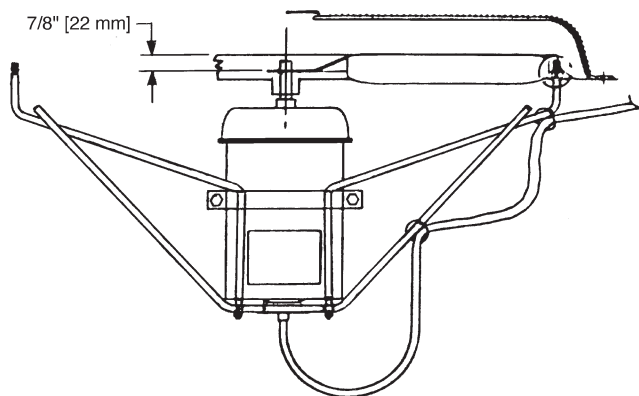

**Fig. 51 — Condenser-Fan Adjustment
3. See Fig. 51 and adjust fan height using a straight edge laid across the fan deck.